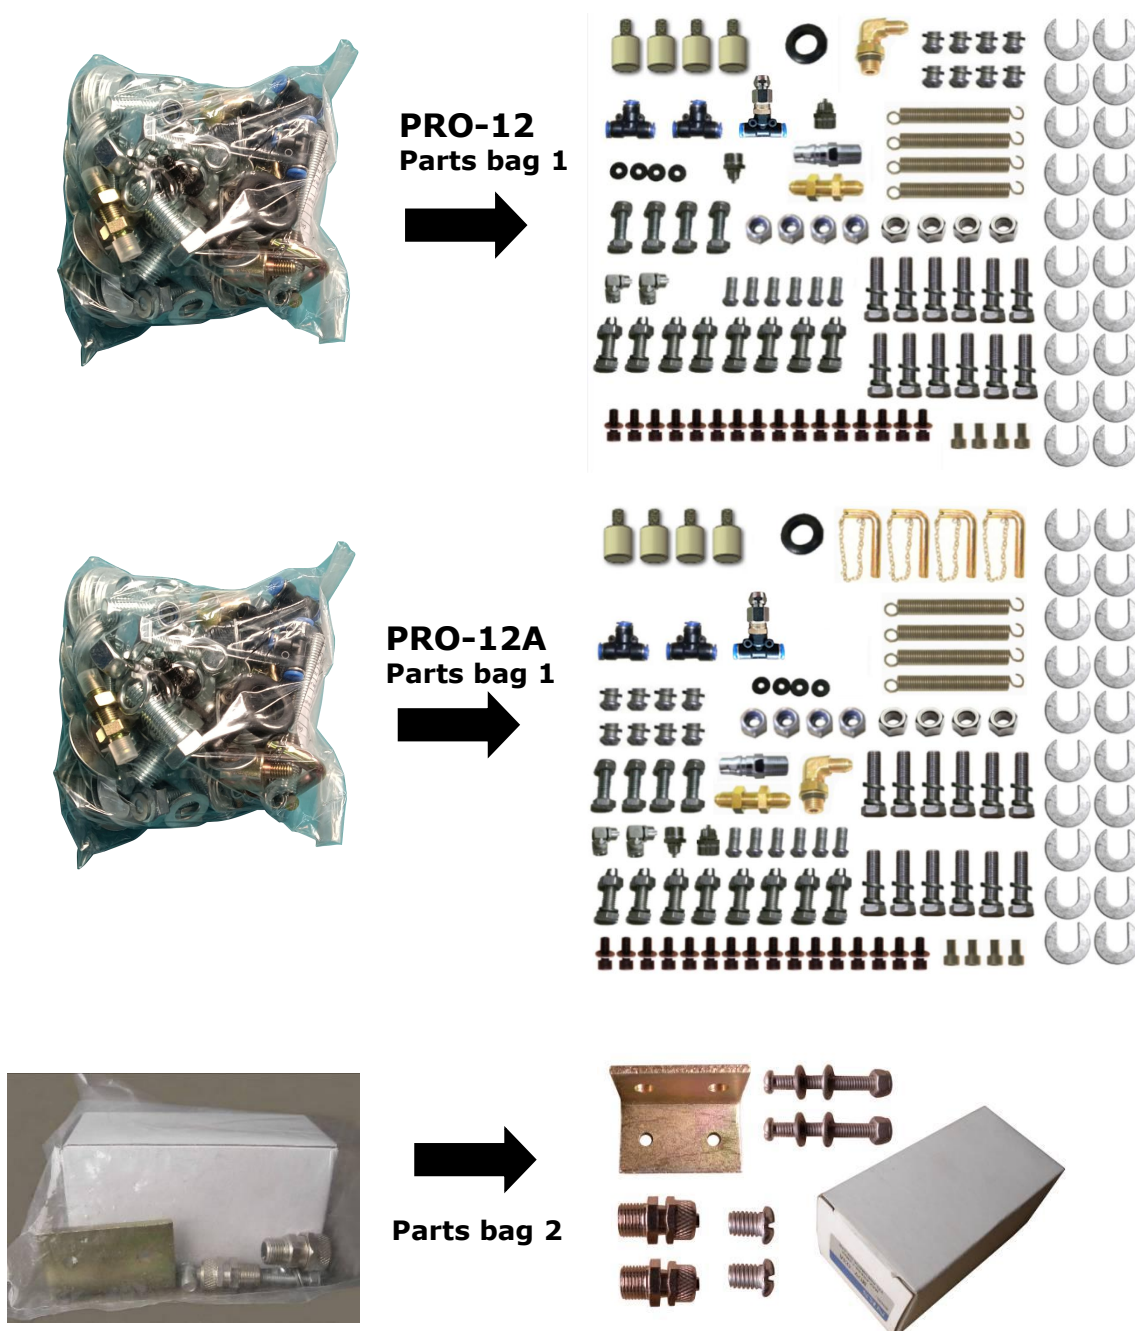

Fig. 12
7. Check the parts of the parts bag according to the parts bag list (**See Fig. 12**).